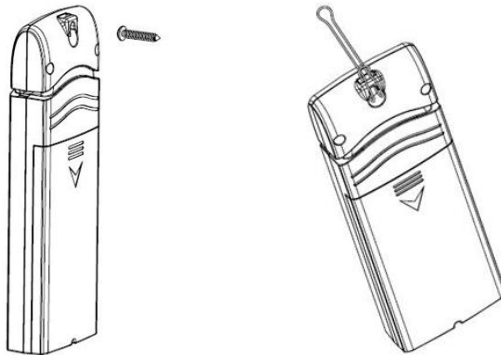

Figure 20: Indoor sensor mounting
- Use a screw or nail to affix the remote sensor to the wall, as shown on the left side of Figure 20, or
- Hang the remote sensor using a string, as shown in right side of Figure 20